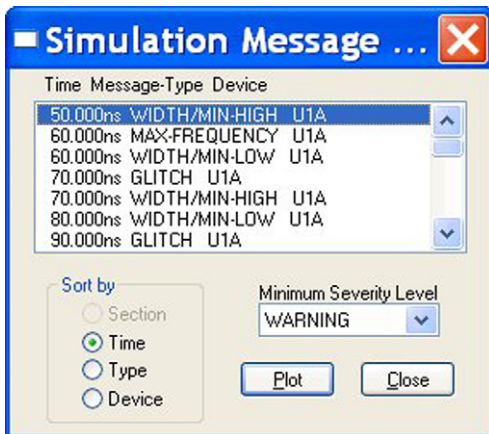

FIGURE 18.19
5. Click on **Yes** and you will see a list of Warnings (Figure 18.19).